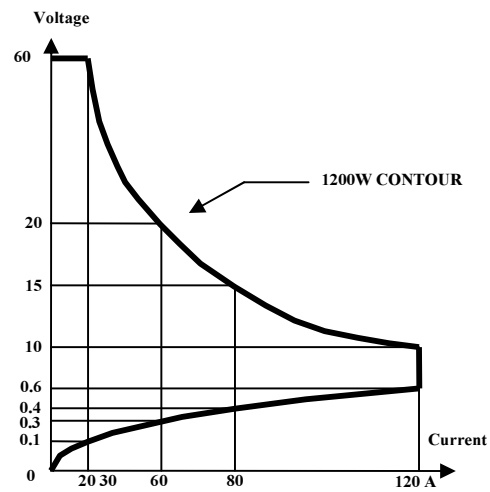

Fig 1-1 3350F Power Contour
The 3350F Series electronic load can be operated for manual and GPIB operation. The power contour of 3350F 1200 Watts Electronic Load is shown in Fig 1-1~1-6, it has an input from 0-120A, and 0 -60V current and voltage operating range respectively. The power contour of 3350F series. The prodigit 3350F Series high power electronic Load can be controlled locally at the front panel or remotely via computer over the GPIB/RS-232C/USB/LAN. Current (CC) mode, Constant Resistance (CR) mode, and Constant Voltage (CV) mode. and Constant Power ( CP ) mode. The wide range dynamic load with independent rise and fall current slew rate and analog programming input with arbitrary wave-form input is available in Constant Current mode.